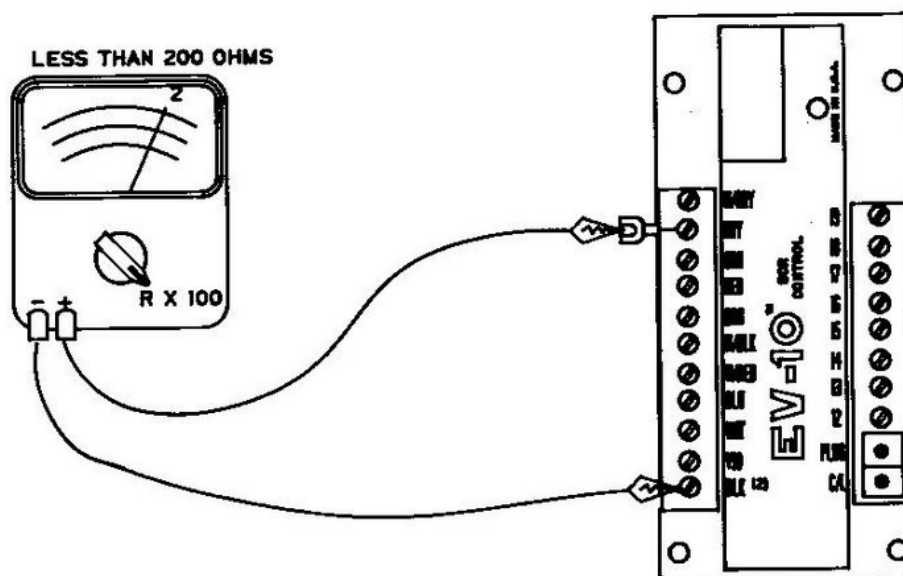

Figure 5.4.25
2. Connect the leads of the VOM to the GRY wire and to terminal board point BLK as shown in Figure 5.4.25. The resistance should be less than 200 ohms when at normal temperature.